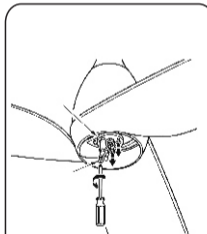

Fig.20
Step 1: Remove 1 of 3 screws on light kit adapter and loosen the other 2 screws.(Fig. 20)